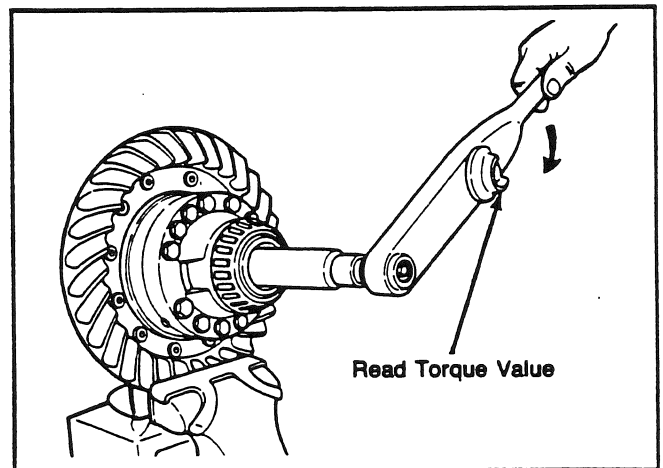

Fig. 61
3. Attach a dial indicator type torque wrench to the nut of the tool and turn the differential gears. As the differential gears turn, read the value indicated on the torque wrench (see Fig. 61). If the torque value exceeds the specification, disassemble the differential case halves.